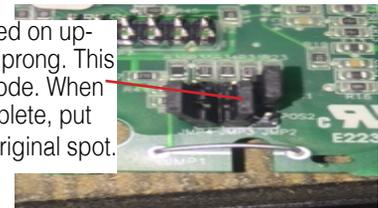

Figure 3
3. Move the JMP2 (on right) to the empty prong and the middle prong. (Fig.3)